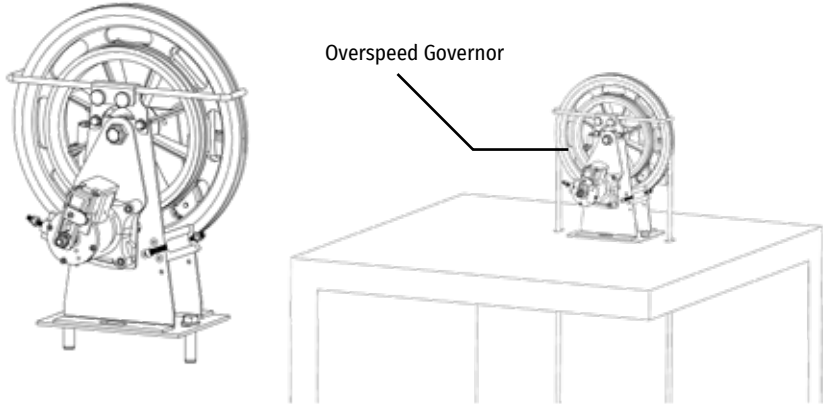

Fig. 9
- a. In no case, the counterweight must touch the floor. Figure 9.